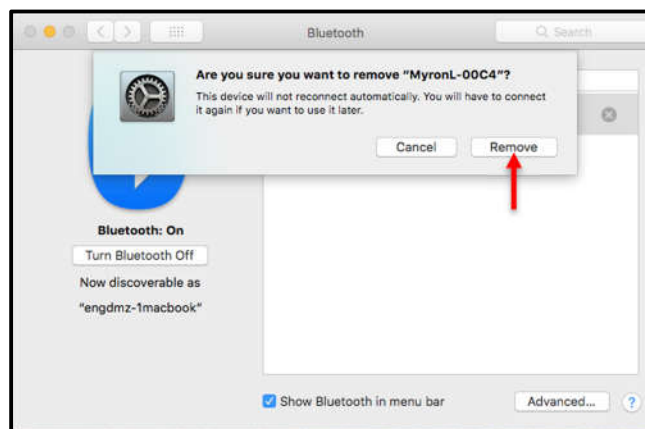

Figure 22
- 4) The macOS will ask you if you are sure, click on **"Remove"** (Figure 22).